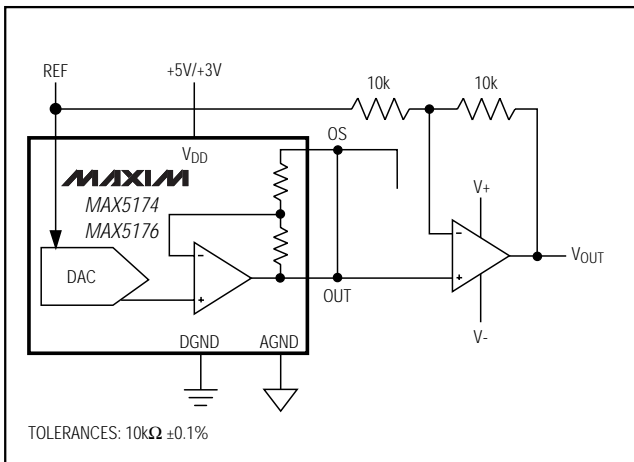

Figure 8. Bipolar Output Circuit
Figure 8 shows the MAX5174/MAX5176 configured for bipolar output operation. The output voltage is given by the following equation (OS = AGND):
where N represents the numeric value of the DAC's binary input code and VREF is the voltage of the external reference. Table 3 shows digital codes and the corresponding output voltage for Figure 8's circuit.
**Table 3. Bipolar Code Table (Circuit of Figure 8)**